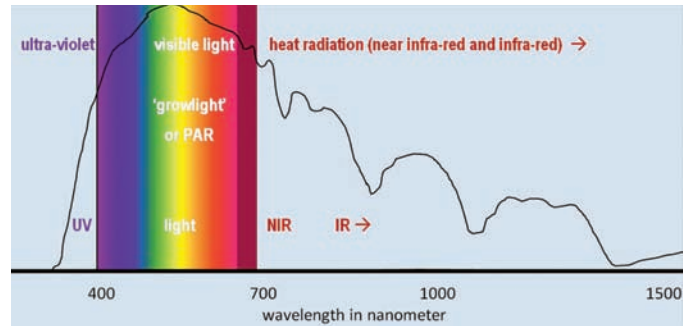

Figure 1.
1. **Radiation or rays** are an electro-magnetic phenomenon. Radiation can be light, but it can also be X-rays, radio waves, sound, ultra-violet (UV) and infra-red (IR).
4. **Global radiation or solar radiation (radiation from the sun)** consists for 45 to 50% of light and for the rest of heat radiation, plus a bit of UV. It covers wavelength range 300 to 1500 nm (see Figure 1).
Radiation is a bundle of rays, and each ray is characterised by its wavelength, expressed in nanometers. With light, the wavelength determines the light colour. Radiation from the sun, also known as solar radiation or global radiation, consists of rays with a wavelength varying from about 200 to over 1500 nm (see Figure 1). The sun produces rays beyond that, but the extreme wavelengths are blocked out by the atmosphere.
While nearly half the solar radiation is light, the other half is heat, and a tiny bit is ultra-violet (see Figure 1). All solar radiation with a wavelength higher than about 700 nm is heat. Radiation directly beyond 700 nm is near infra-red (NIR) and further to the right it becomes infra-red (IR). The terms NIR and IR can get mixed up, as they are both used to indicate radiation beyond 700 nm.